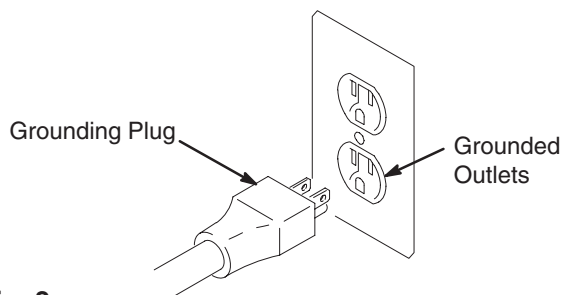

Fig. 2
1. All models require a 120 Vac, 60 Hz, 15A circuit with a grounding receptacle. See Fig. 2.